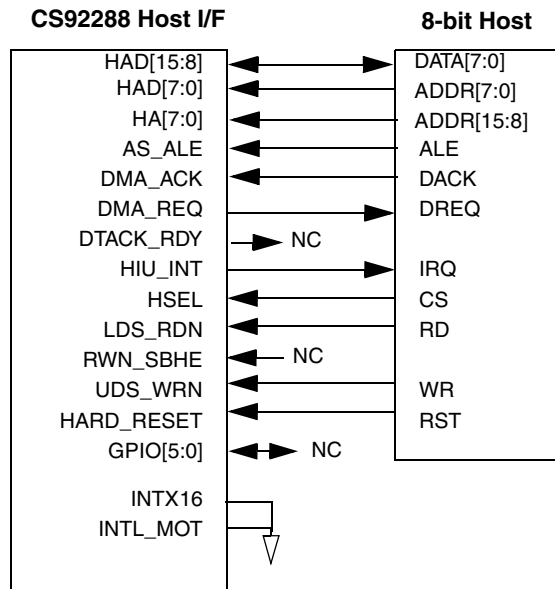

Figure 10: HIU Interface Signals for 8-bit Hosts with separate address and data buses
**HAD[15:0]** are bidirectional multiplexed address/data pins. 8-bit or 16-bit operation is selectable by signal INTX16. Internal pull-up resistors are provided. In 8-bit demultiplexed mode, the higher 8 bits are used as data and the lower 8 bits are used as address (see Figure 10).